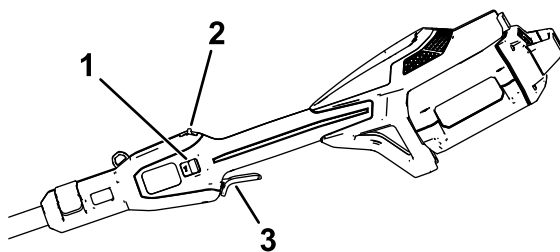

Figure 8
4. To start the trimmer, pull back the lockout switch, then squeeze the variable-speed trigger (Figure 8).